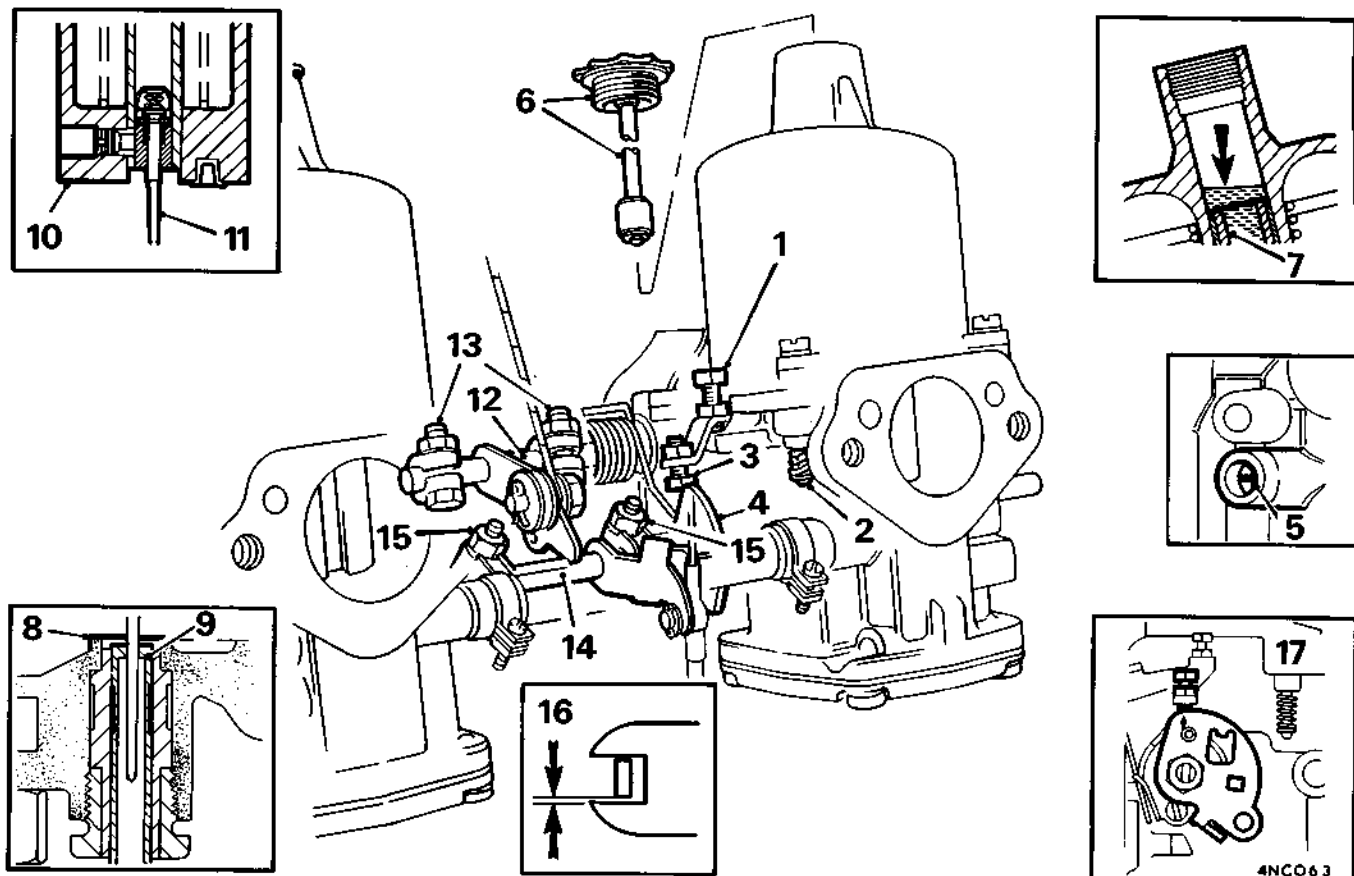

Fig. D.13
11. Unscrew and withdraw the piston dampers from the suction chambers. Top up with new engine oil (preferably S.A.E. 20) until the level is $\frac{1}{2}$ in. (13 mm.) above the top of each hollow piston rod (see Fig. D.13). Refit the damper assemblies.